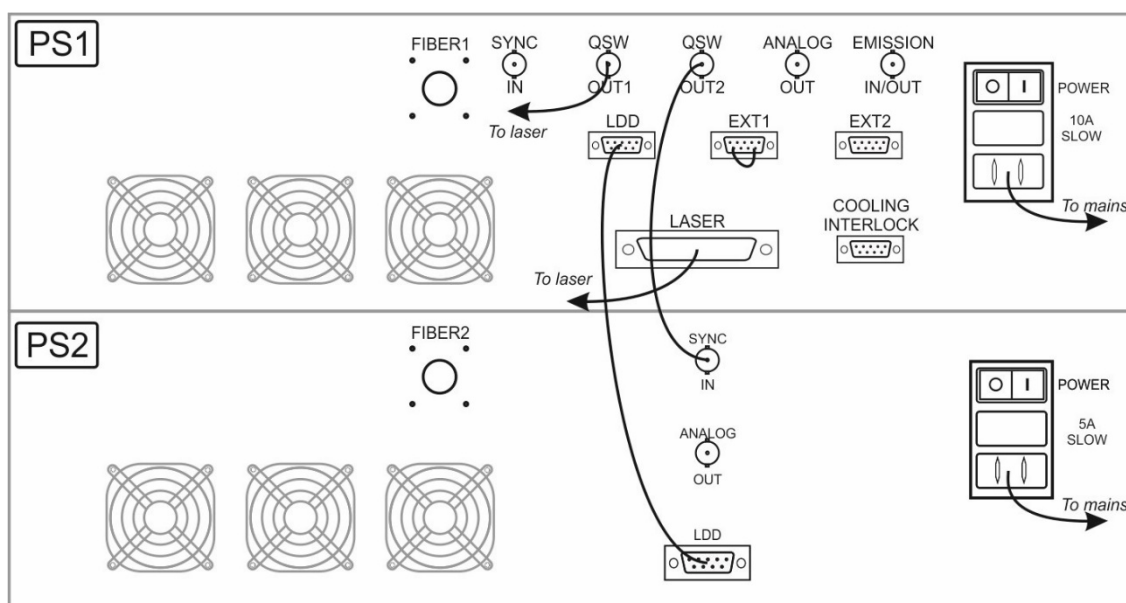

Figure 8 Connections on power supply rear panels
5. Make the connections according to Figure 8: